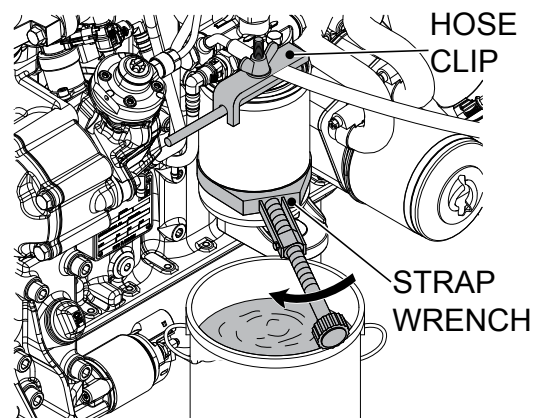

Figure 42. Fuel Fine Filter
1. Block the fuel feed line using the hose clip (Figure 42).